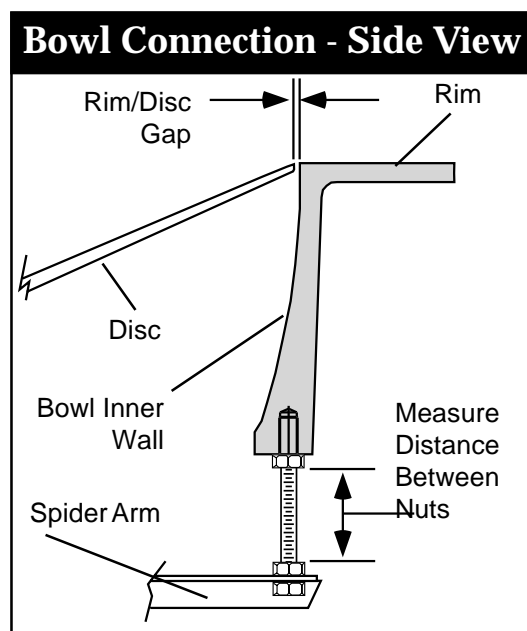

Figure 5-2. Bowl Connection
Step 1—Measuring and Removing the Bowl. Measure the height between the bottom of the bowl, and the top of the spider arm (where the threaded rod connects the two parts - see Figure 5-2). Loosen and remove the bottom nut on the spider arm (on each of the eight (8) arms) and remove the bowl - pulling it up and away from the feeder.
► If machining enlarges the inner diameter of the bowl, you may need to replace the disc with a larger one (custom-sized) from your direct supplier. If you do not obtain a larger disc, the gap between the disc and the inner diameter of the bowl may pinch or snag product (see Figure 5-2).